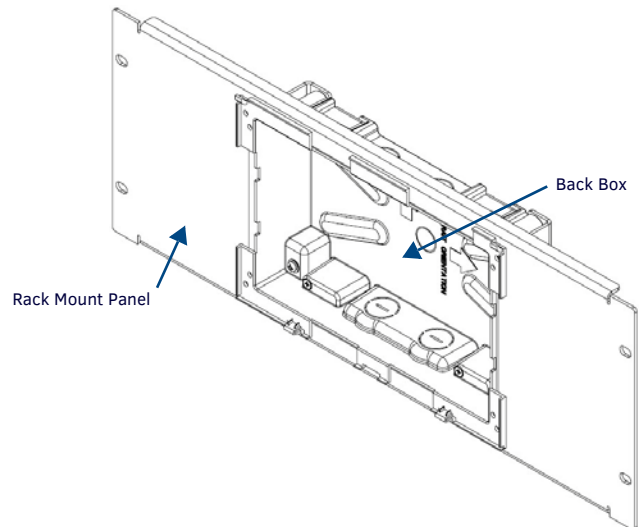

FIG. 4 FINAL ASSEMBLY OF THE MXA-RMK-10 WITH BACK BOX
4. With the Back Box anchored in the Rack Mount Panel (FIG. 4), you may now install the MXD-1000 into the Back Box.